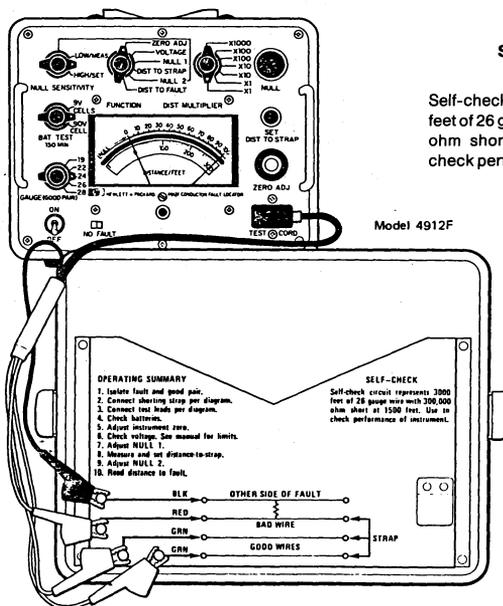

FIGURE 2. INSTRUMENT TURNON & SELF-CHECK PROCEDURES
2. PROCEDURES FOR SELF-CHECK OF INSTRUMENT (Fig. 2)